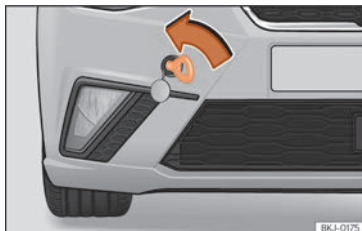

Fig. 48 Right side of the front bumper: towline anchorage in position.
- Screw the towing eye in the housing by turning it as far as it will go **anticlockwise** » **Fig. 48** » **!**. Use a suitable object that can completely and securely tighten the towing eye in its housing.